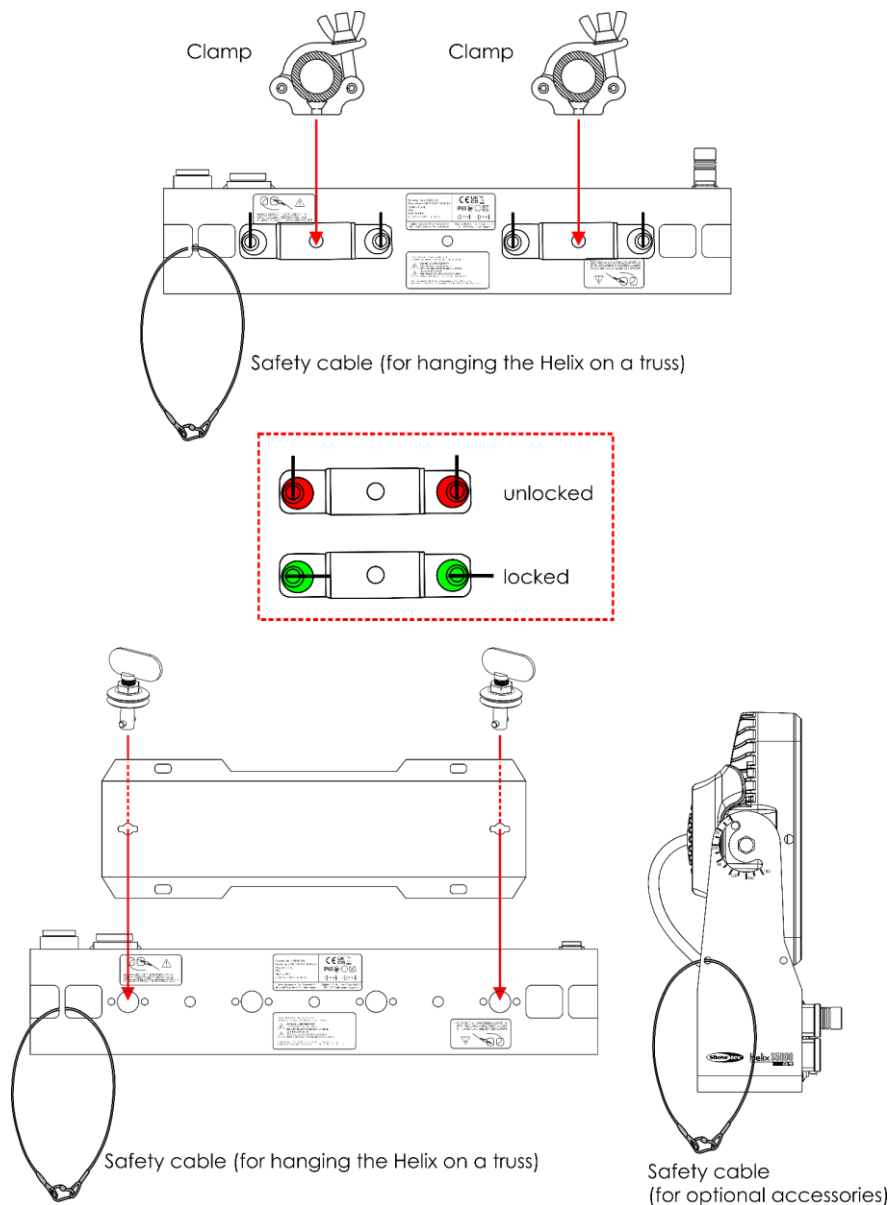

Fig. 12
The device can be positioned on a flat surface (see Fig. 12) or mounted to a truss or other rigging structure in any orientation. Make sure that all loads are within the pre-determined limits of the supporting structure.
- 01) Use a clamp to attach the device to the supporting structure, as shown in Fig. 12. Make sure that the device cannot move freely. The use of a quick lock bracket is optional.
- 02) Secure the device with a secondary suspension, for example a safety cable. Make sure that the secondary suspension can hold 10 times the weight of the device. If possible, the secondary suspension should be attached to a supporting structure independent of the primary suspension. Put the safety cable through the **safety eye (09)**, as shown in Fig. 12. You can use the safety cable supplied with the device.